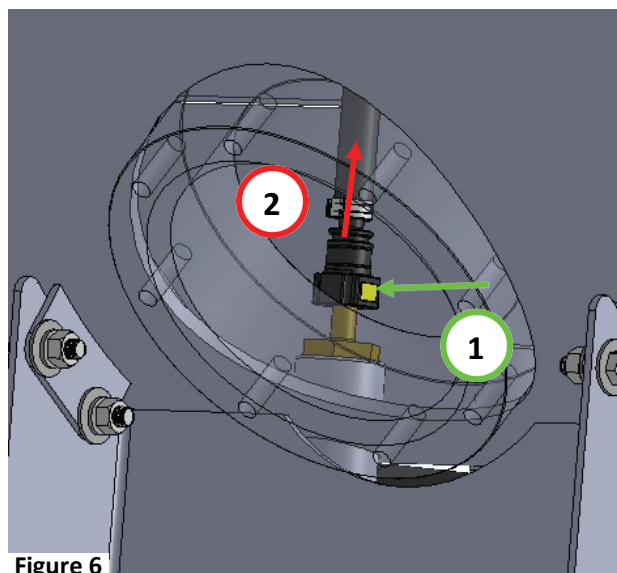

Figure 6
7. To remove the quick disconnect fitting from the fuel pump supply bushing. Press in the tab on the side of the quick disconnect **(1)** While pushing the tab in pull the assembly in the opposite direction from the quick connect bead fitting **(2)**. (Figure 6 & 7)